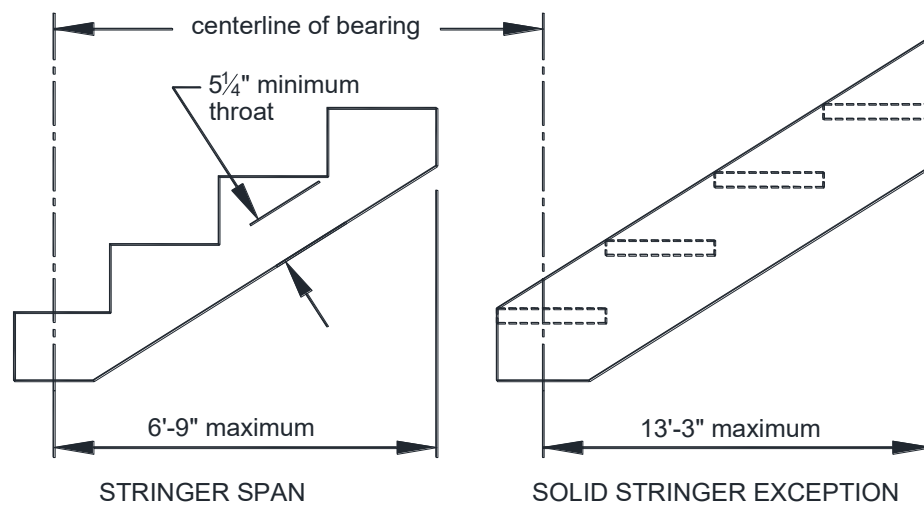

FIGURE 41: MAXIMUM STRINGER SPAN LENGTH
- Stringer span length is measured using the horizontally projected distance between the bearing at each end and shall not exceed the dimensions shown in FIGURE 41.
- SOLID STRINGER EXCEPTION:** Solid stringers of stairways with a width equal to 36 inches shall be permitted to have a span as shown in FIGURE 41.
- Throat size of cut stringers shall not exceed the value shown in FIGURE 41.